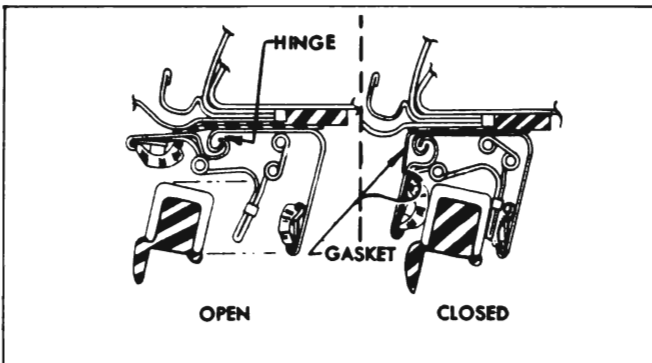

Figure 1-16—Sealing Strip Lubricare
1. Open the door and apply a coat of Lubriplate No. 107 or No. 110 to entire length of hinge indicated in figure 1-16. Wipe off any excess. Do not apply this lubricant to the awning gasket.
2. Close the door and apply a thin coat of "DC-4" Silicone Compound or "DC-7" Silicone Emulsion to both sides along length of the awning gasket indicated in figure 1-16. Wipe off excess compound to avoid accumulation of dust.